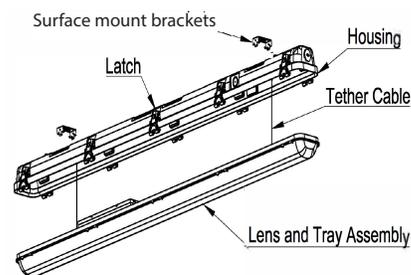

Fig 1
2. Unlatch the Lens and Tray Assembly from the Housing. The Pre-installed Tether Cables will prevent the Lens and Tray Assembly from falling down (As shown in Fig 1)